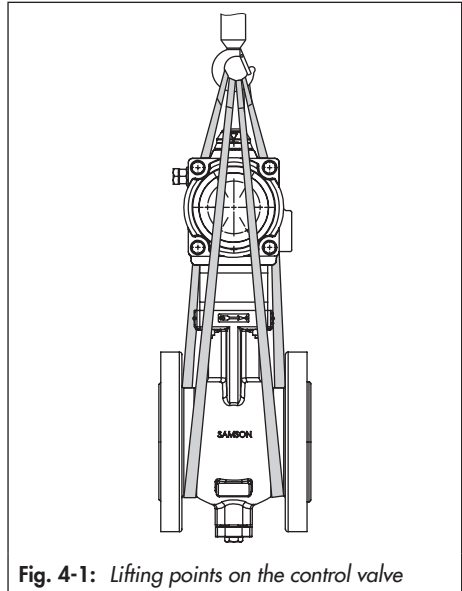

Fig. 4-1: Lifting points on the control valve
- Use a hook with safety latch (see Fig. 4-1) to secure the slings from slipping off the hook during lifting and transporting.
hook) of the crane or forklift (see Fig. 4-1).